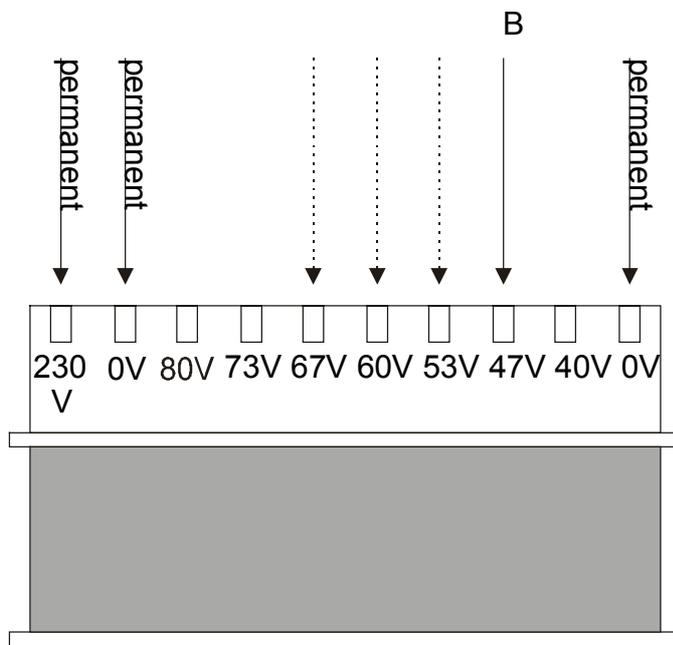

fig. S 6
- Move wire (B) to the next higher value (see fig. S 6).